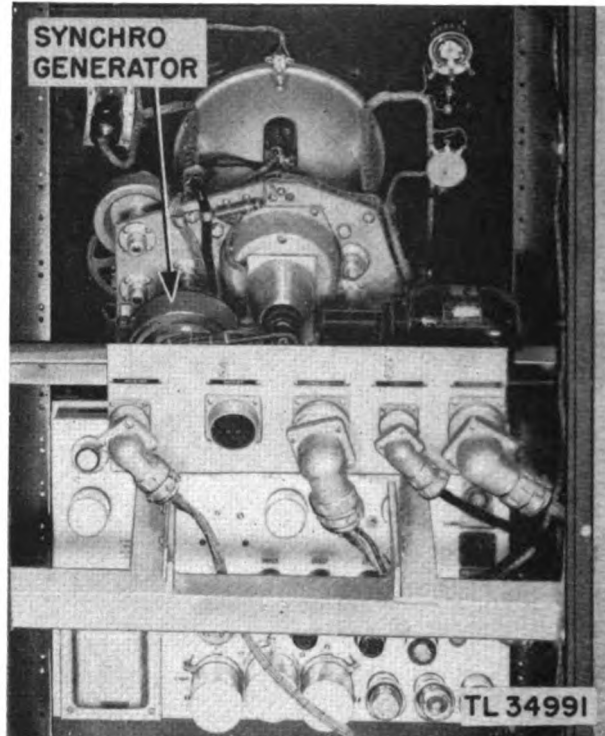

Figure 31. Rear of PPI scope chassis.
f. Open the rear door of the control cabinet and locate the synchro-generator mounted on the same chassis as the PPI scope (fig. 31).